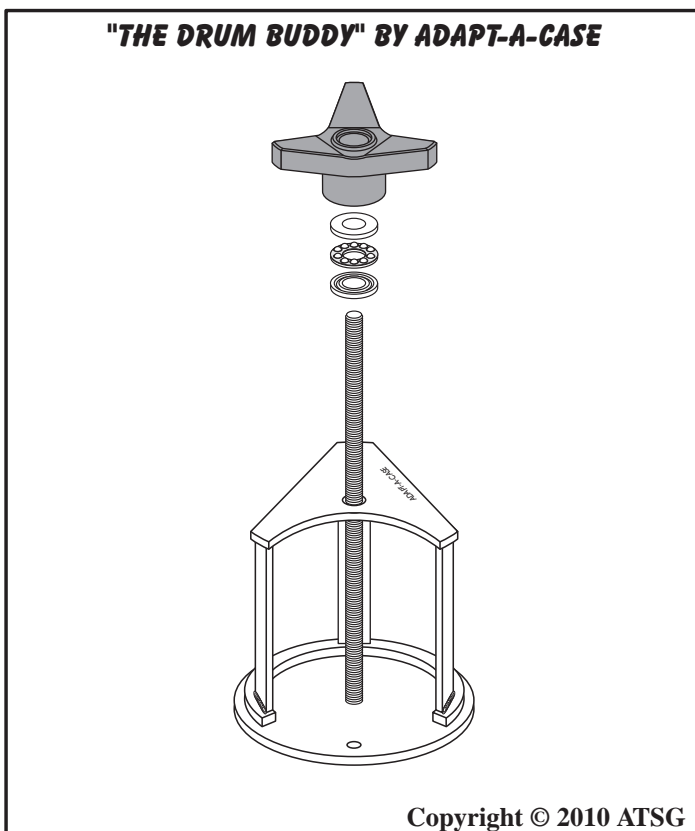

Figure 72
**Note:** This is a deep case and the compressor from "Adapt-A-Case", shown in Figure 72, gave great access to the snap ring and worked very well.